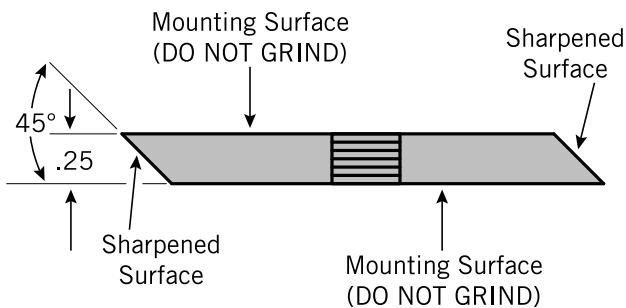

Figure 5.3, Chipper Blade Surfaces
2. Regrind the angled edge of the chopping blades to 45 degrees (Figure 5.3). Use the blade angle gauge plate when sharpening the blades to achieve the proper angle (see Figure 5.4).